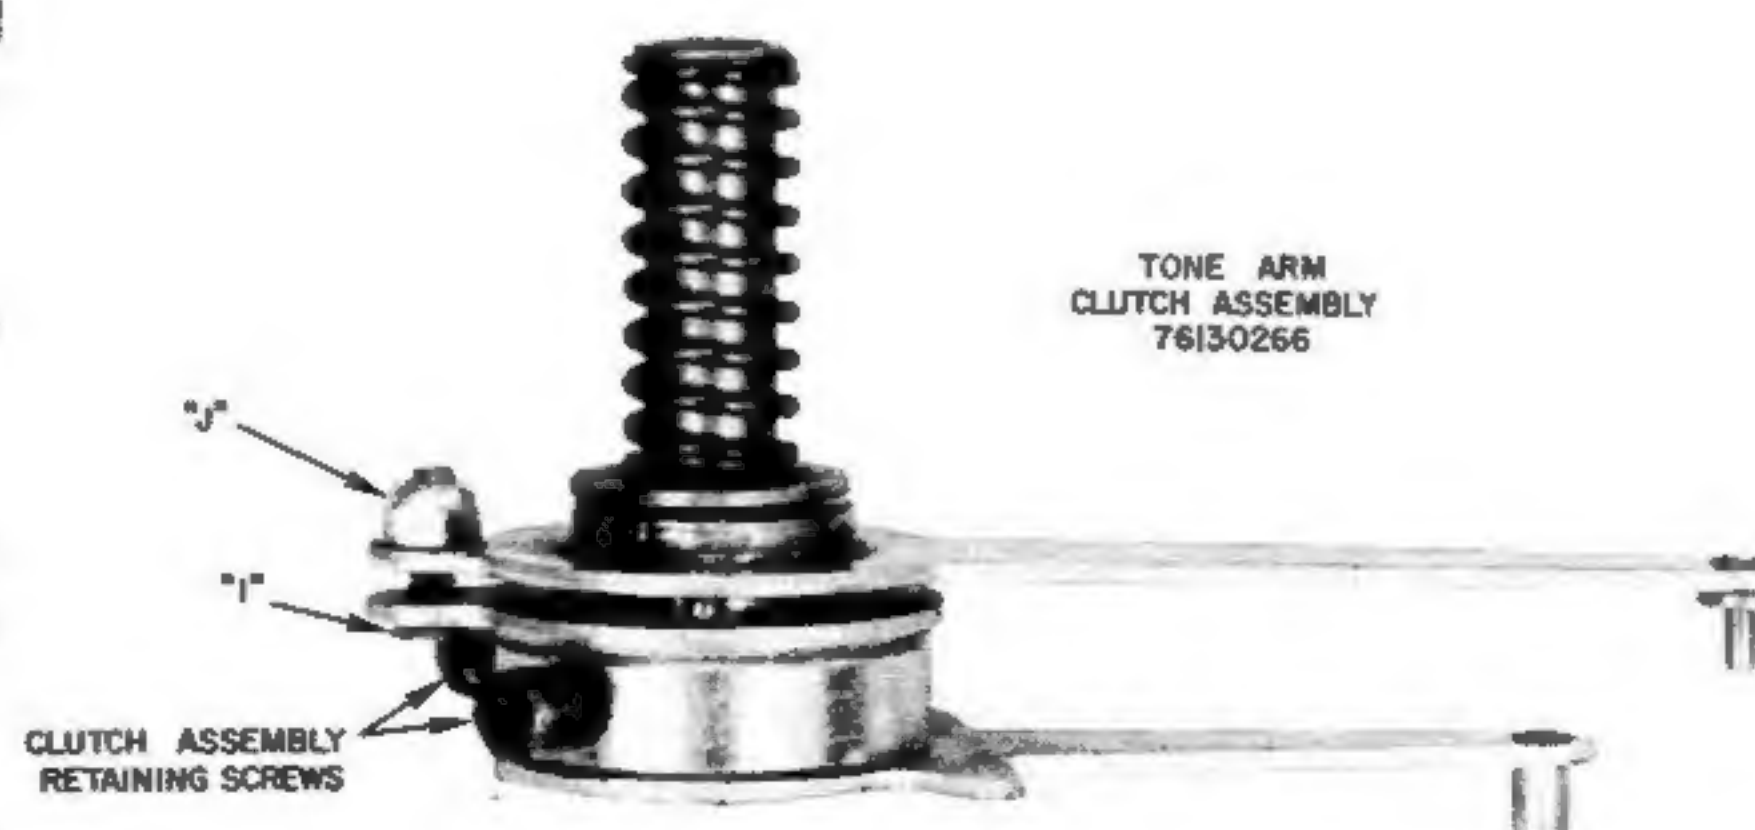

Figure 7
2. Loosen the two screws in Clutch Boss (see Figure 7) and remove Clutch Assembly.